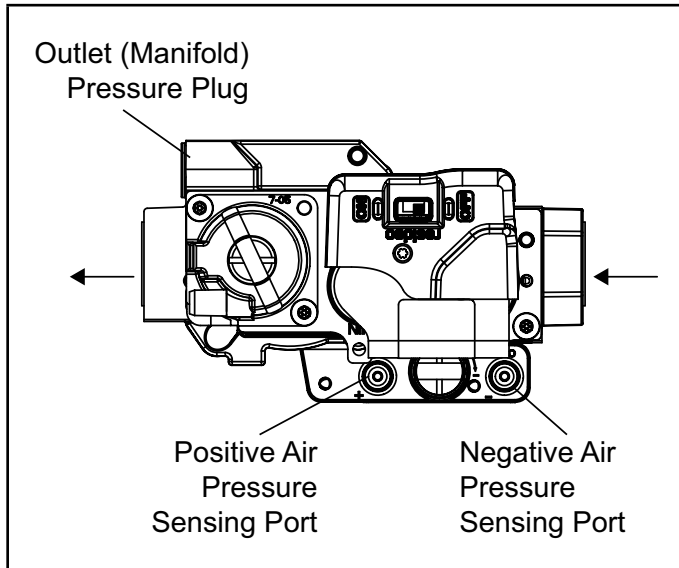

FIGURE 9
- 3 - Slide the gas valve switch to the "ON" position (see FIGURE 9).
- 2 - Slide the gas valve switch to the "OFF" position (see FIGURE 9).
- 1 - Slide the gas valve switch to the "OFF" position (see FIGURE 9).